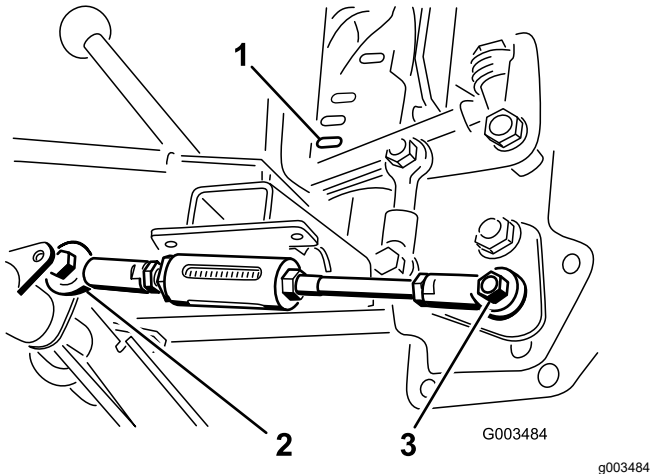

Figure 8
6. Move the lift handle until the hole in the ball joint aligns with the hole on the right-side of the adjustable rod lever on the pivot tube, and secure the rod to the lever with a bolt (1/2 x 1-1/2 inches) and a locknut (1/2 inch) as shown in Figure 8.